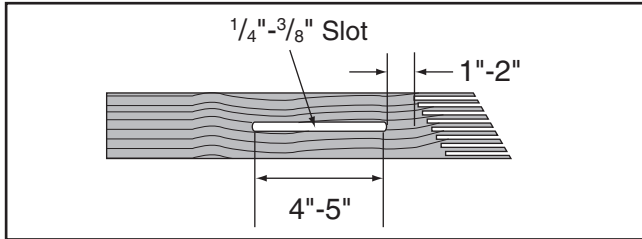

Figure 73. Slot routed in featherboard.
4. Rout a $\frac{1}{4}$ "- $\frac{3}{8}$ " wide slot 4"-5" long in workpiece and 1"-2" from short end of featherboard (see **Figure 73**).